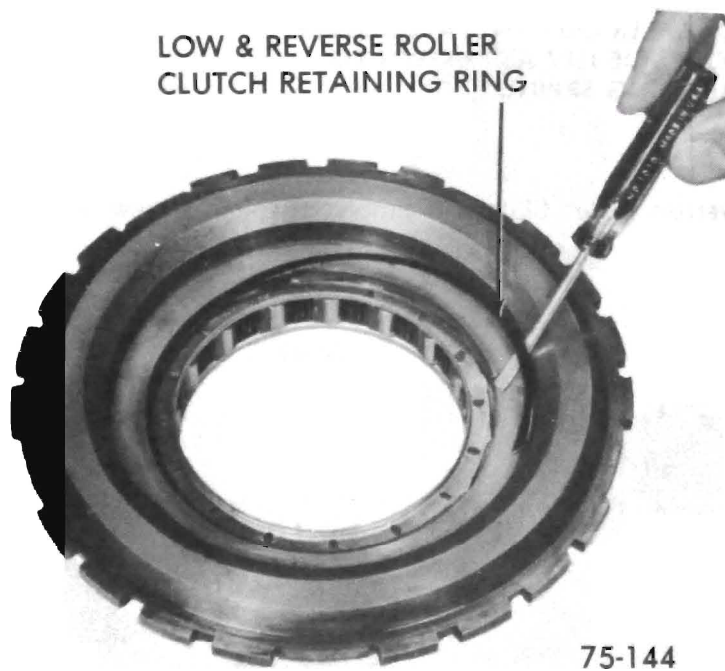

Figure 75-210
3. Remove low and reverse roller clutch retaining ring. See Figure 75-210.
3. Install low and reverse clutch to cam retaining ring. See Figure 75-210.